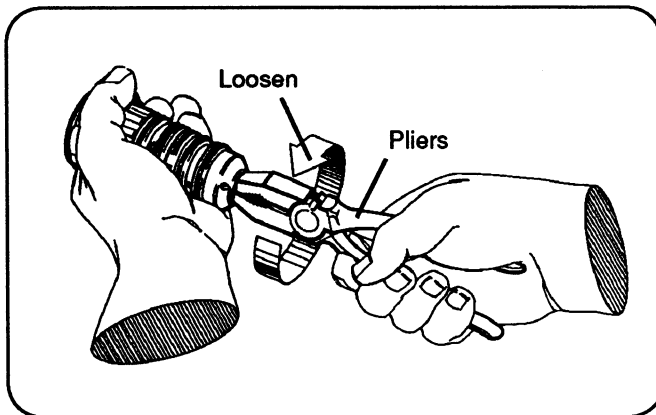

Figure 1 Old Style Water Tube Removal
1. If an old syle water tube is being removed, grip the water tube with the pliers (Fig. 1). (It is okay to crush the water tube to get a good grip.)